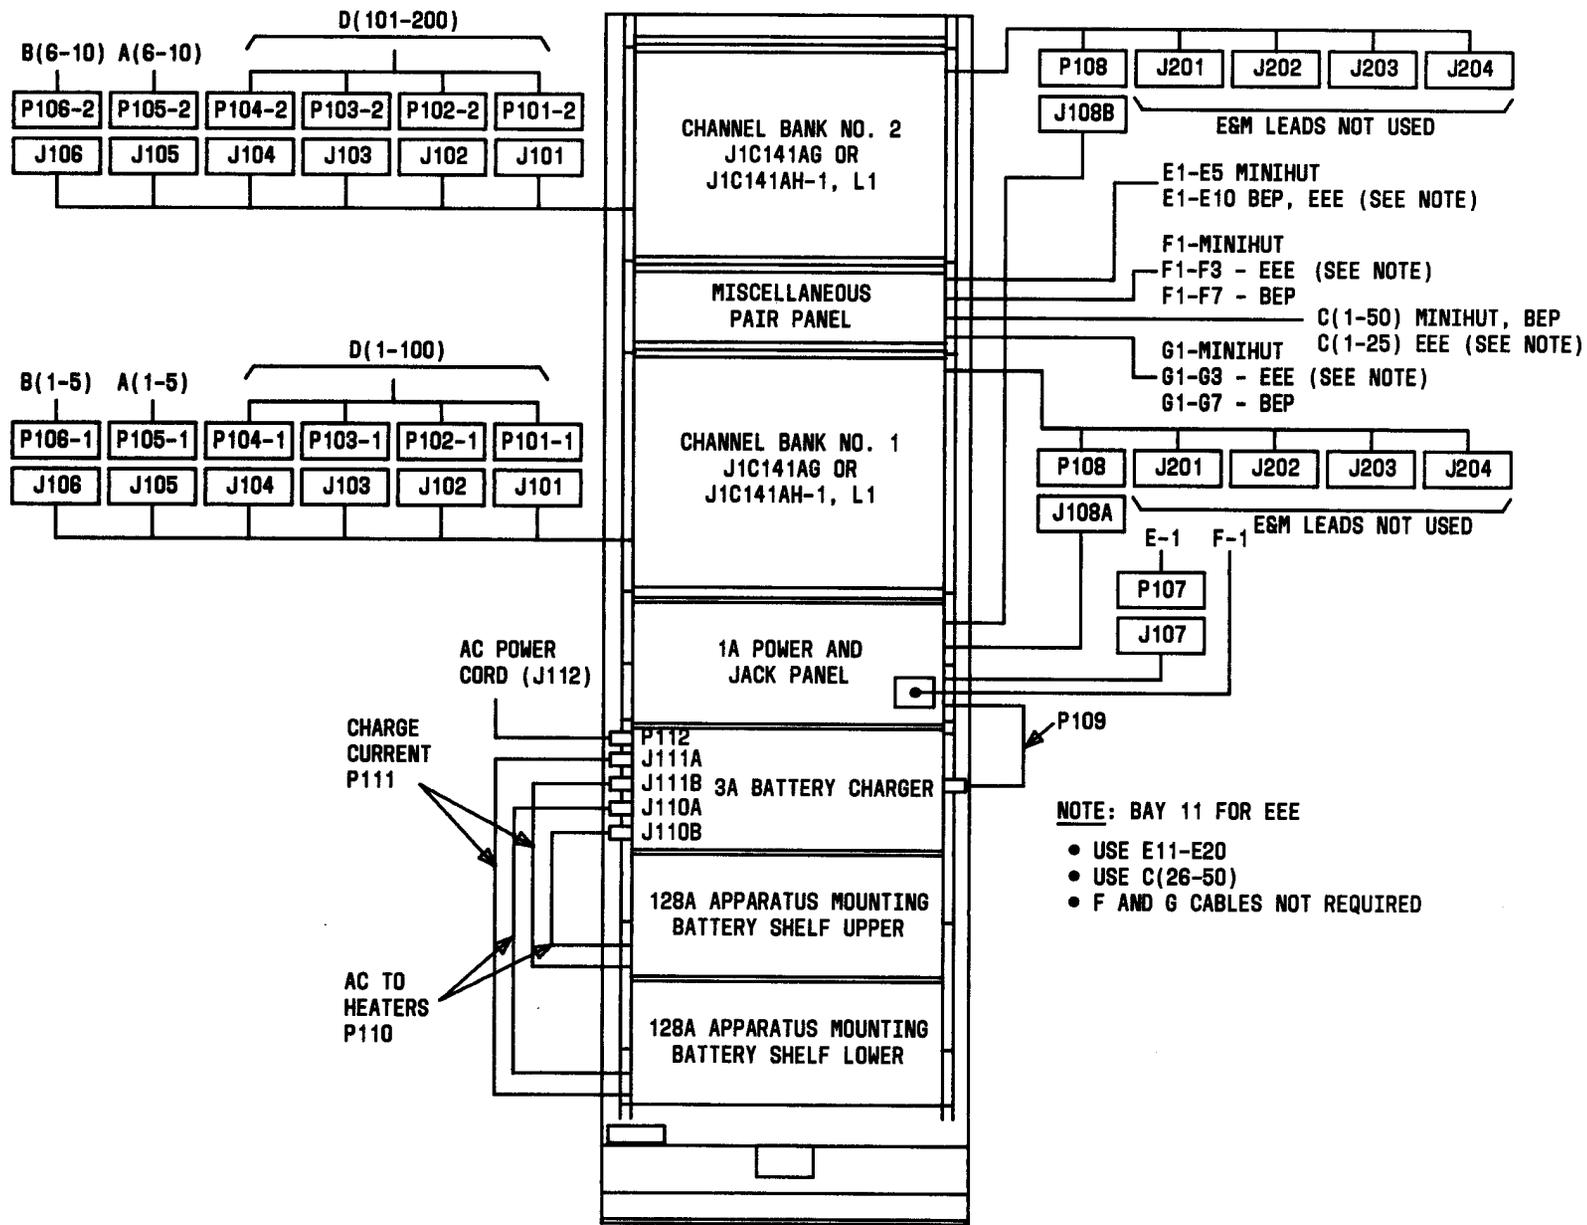

Fig. 7—Interconnections Between Shelves for Bay 1 (Bay 11 Similar Except as Indicated)
4.01 After shelves are installed, make electrical connections between shelves as follows. See Fig. 7 and 8.
6.01 The 120 Vac power is supplied to each bay by means of extension cords purchased locally. The cord lengths required are listed in Table A. The cord's female connector (J112) should be a HUBBELL TWISTLOCK* 5207 connector, or equivalent, with an outside diameter of 1-7/16 inches or less to allow mating with the 3A battery charger (P112). The male end of the cord should be a HUBBELL TWISTLOCK 5266C connector, or equivalent. See Fig. 7 through 10.